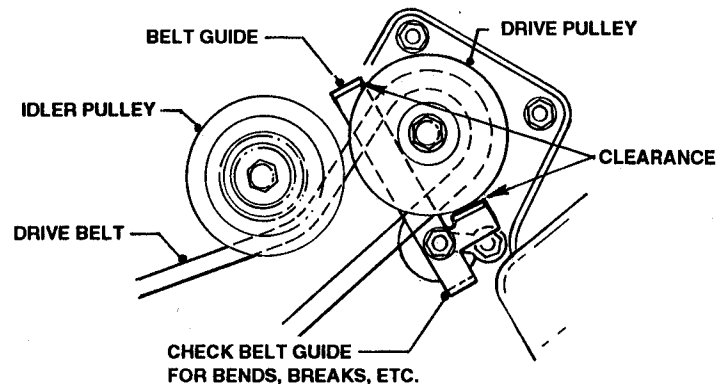

FIGURE 8.4
- (6) Remove the Belt Guide.
- (7) Remove worn/broken Belt.
- (8) Install new Belt in reverse order.
- (9) Position Belt Guide as shown in Figure 8.4.